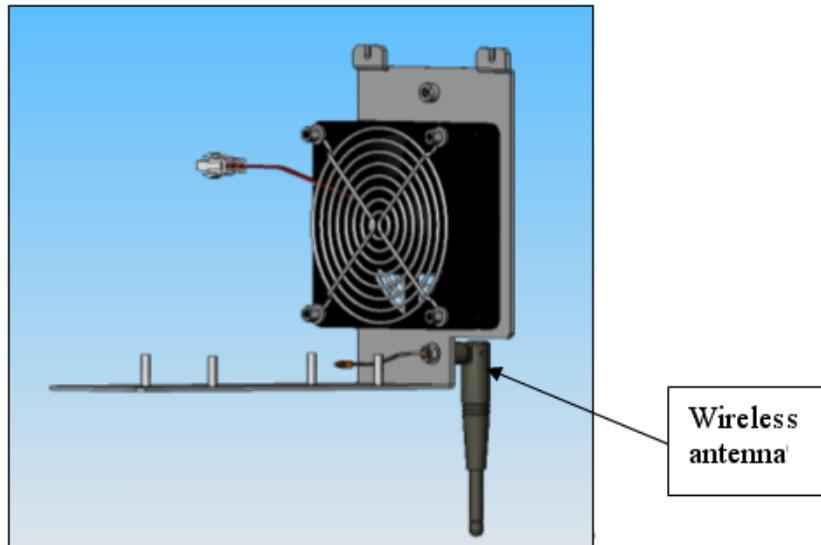

Figure 3: Wireless Antenna
7. Hand tighten the antenna to the fan bracket, and then apply a $\frac{1}{2}$ turn using an adjustable wrench (Figure 3: Wireless Antenna).